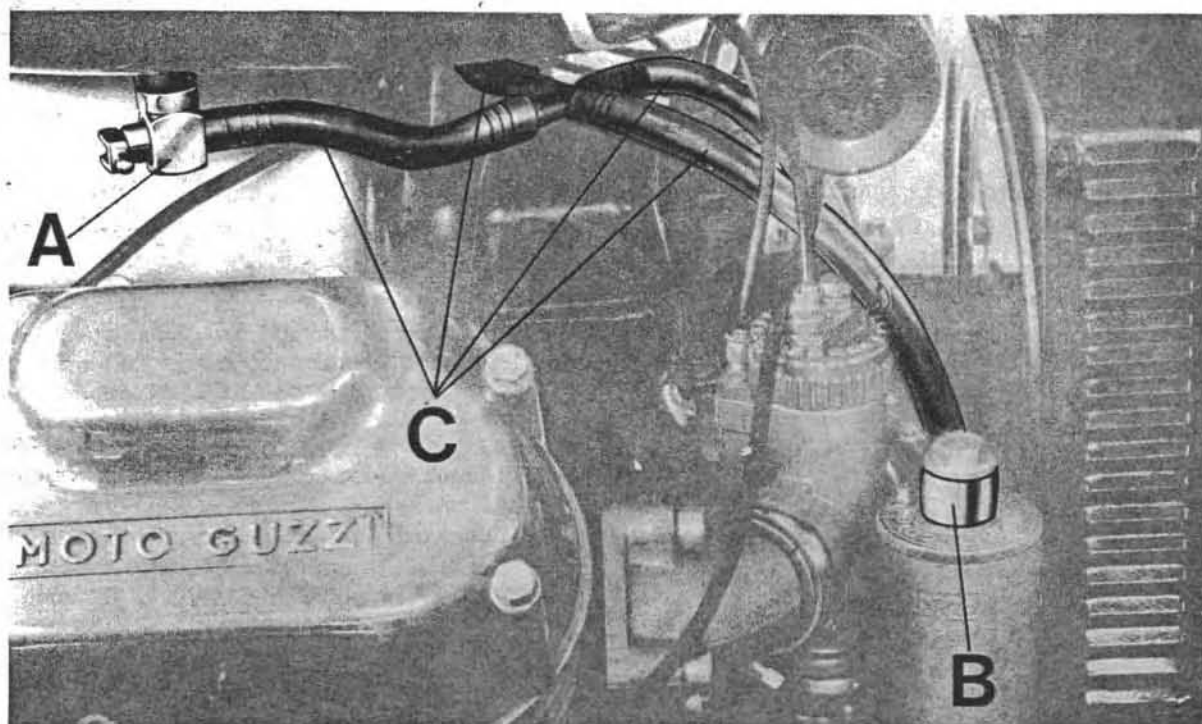

Fig. 65
conveying same to four-way adapter and from here to carburetor filters (B). See Fig. 65.